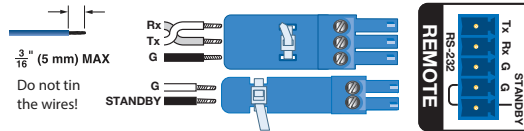

Figure 16. Captive Screw Connector Wiring
- 5 **Remote ports** (see **figure 13**) — Connect a 3.5 mm 3-pole captive screw connector to the RS-232 port to remotely monitor and control the unit. Connect a 3.5 mm 2-pole captive screw connector to the standby port to remotely place the amplifier in standby mode (see **figure 16** on the next page).